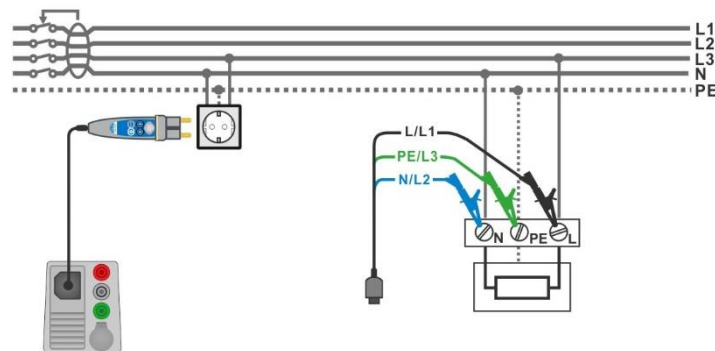

Figure 7.132: AUTO TN (RCD) measurement
- ▶ Connect 3-wire test lead or Plug commander to the object under test, see Figure 7.132.